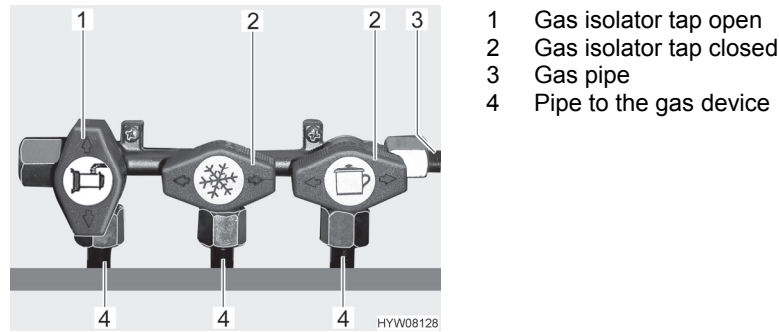

Fig. 116 Gas isolator taps position (example)
- Position the gas isolator tap of the corresponding gas device parallel (Fig. 116,1) to the pipe (Fig. 116,4) leading to the gas device.
- Position the gas isolator tap of the corresponding gas device transverse (Fig. 116,2) to the pipe (Fig. 116,4) leading to the gas device.